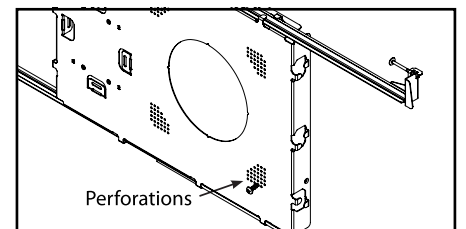

Fig. 6
4. To secure the pan to the grid, install screws (provided by others) into screw holes (Fig. 6).